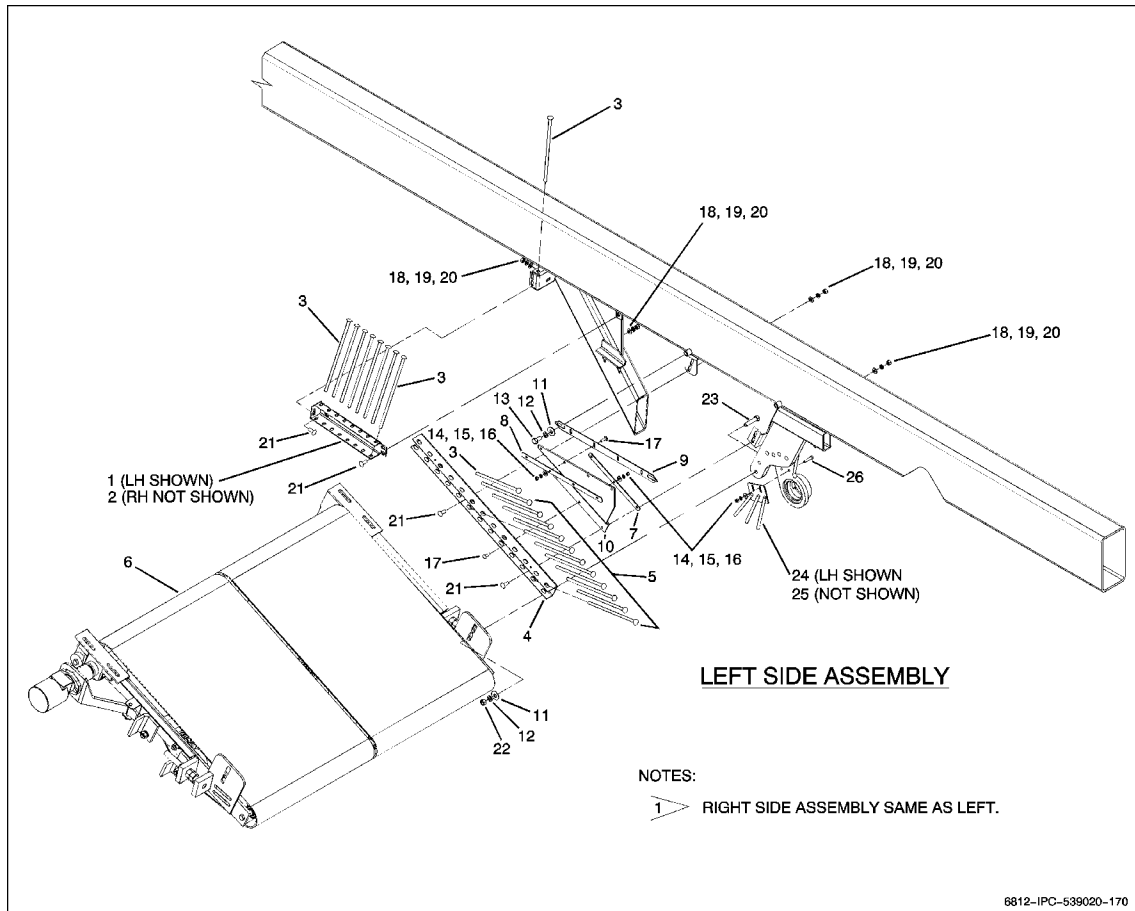

Figure 95 – Short Conveyor Grate And Pin Assembly
7. Installation of short conveyor, see Figure 93, Figure 95, and assembly illustration figure.
- d. Install the grates and rubber flap per Figure 95.